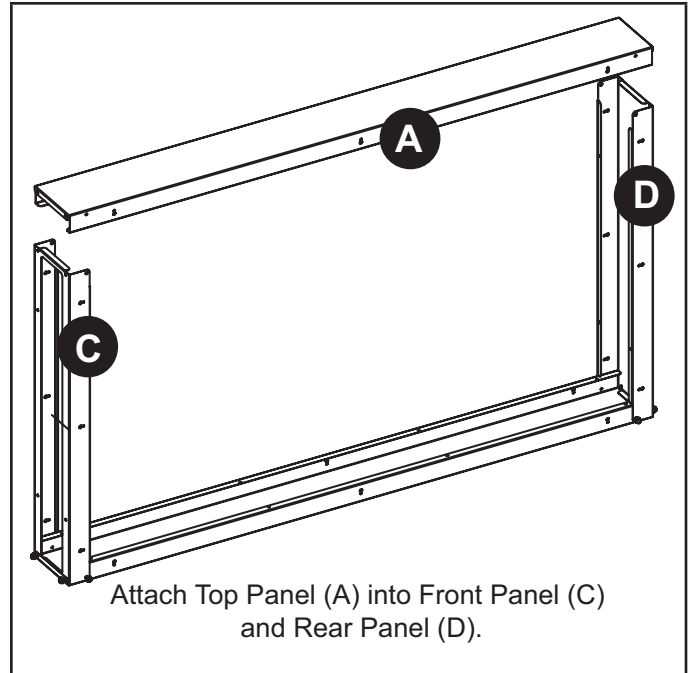

FIGURE 12. Install Top Panel (A)
- 2 - Align and attach rear panel D into Top / Bottom Panel A (see figure 12).